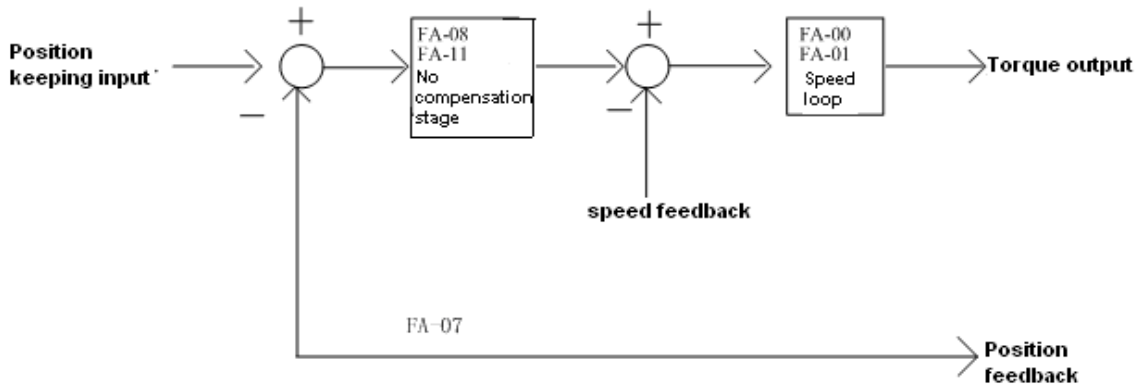

Figure 6.16: Flowchart for elevator starting without load compensation
- 1) Principles: As can be seen in figure 6.16 below, when brake open, based on the position feedback from Sine/Cosine PG card, system can calculates the necessary torque required for motor to remain the steady position under current load, and it gives corresponded torque at once to minimize the traction sheave movement and to achieve comfortable start.